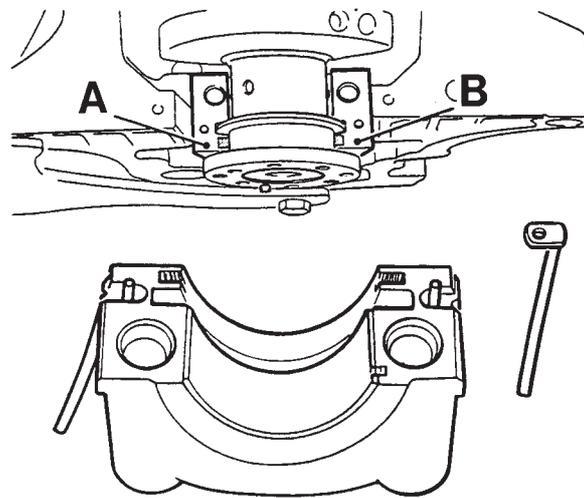

Fig.4 Rear main bearing cap rubber seals
7. Apply a drop of Loctite 574 to the mating face of the rear main bearing at 'A' and 'B' (fig.4).